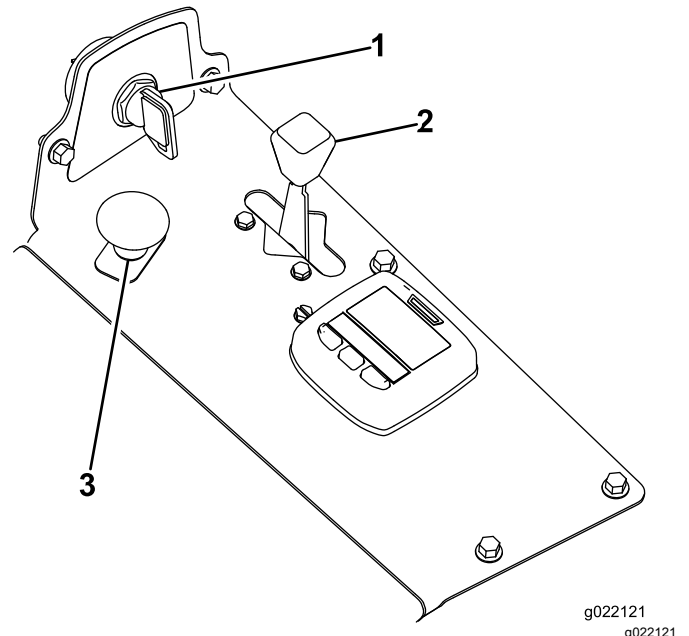

Figure 16
4. Move the PTO (power take-off) switch to the off position (Figure 16).